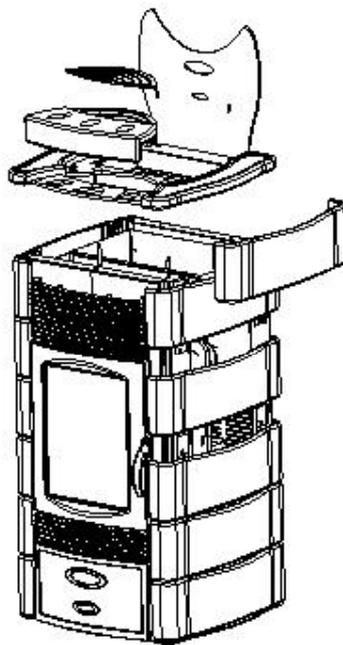

Figure 3.5: Disassembly of the decorative elements
3. Quitar los azulejos laterales (Ref.3, fig 3.5.).